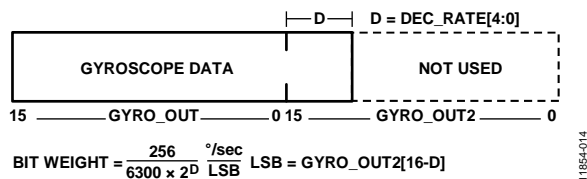
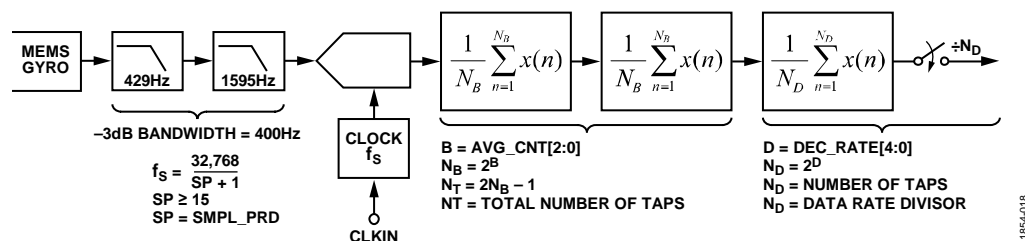

Figure 14. Gyroscope Output Format, DEC\_RATE[4:0] > 0
Figure 18. Sampling and Frequency Response Block Diagram
The GYRO\_OUT2 register (see Table 11) captures the bit growth associated with the decimation and FIR filters (see Figure 18) using an MSB justified format. The bit growth starts with the MSB (GYRO\_OUT2[15]), is equal to the decimation rate setting in DEC\_RATE[4:0] (see Table 18), and grows in the LSB direction as the decimation rate increases. See Figure 14 for more details.
Figure 18 provides a block diagram for the sampling and digital filter stages inside of the ADIS16137. Table 15 provides a summary of registers for sample rate and filter control.
[15:0]	Clock setting bits; sets $f_s$ in Figure 18
[2:0]	Binary; B variable in Figure 18; maximum = 110 (6)
The DEC\_RATE register (see Table 18) provides user control for the final filter stage (see Figure 18), which averages and decimates the output data. For systems that value lower sample rates, this filter stage provides an opportunity to lower the sample rate while maintaining optimal bias stability performance. The -3 dB bandwidth of this filter stage is approximately one-half of the output data rate. For example, set DEC\_RATE[7:0] = 0x04 (DIN = 0xA204) to reduce the sample rate by a factor of 16. When the factory default 2048 SPS sample rate is used, this decimation setting reduces the output data rate to 128 SPS and the sensor bandwidth to approximately 64 Hz.
[4:0]	Binary; D variable in Figure 18; maximum = 10000 (binary) = 16 (decimal)